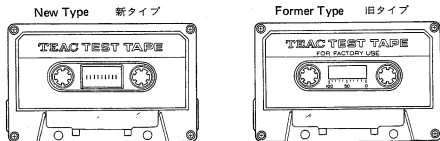

Fig. 4-3
CAUTION 2: The 238's 8-channel format head requires much more accuracy in tape travel adjustments than any traditional heads. Be sure to use a new TEAC mirror tape which is more suitable to the 238 than the former type. Note that both share the same model name and part number though they differ in aspects as shown in Fig. 4-3.
- 従来タイプと新タイプでは品番、品名が変わりませんので外観上の違いで区別して下さい。(図4-3 参照)